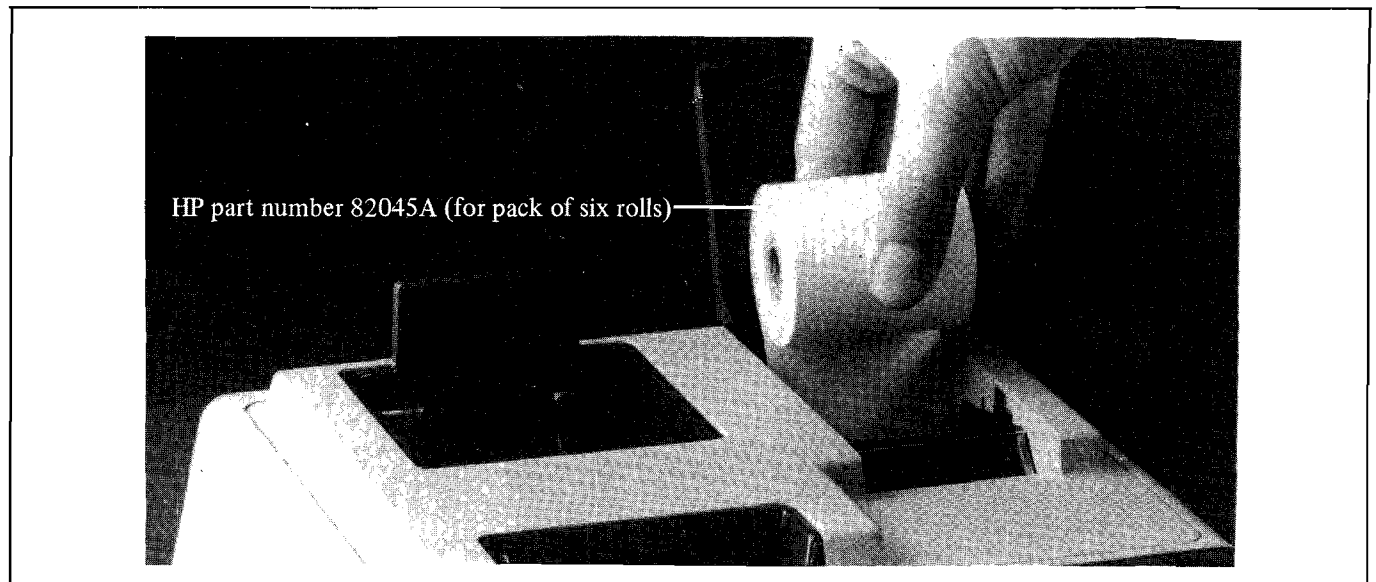

Figure 8-2 Printer Paper Loading
- 2) Hold the new roll with the loose end underneath. Press the loose end into the printer slot (see fig. 8-2). The paper will automatically feed through and then stop.